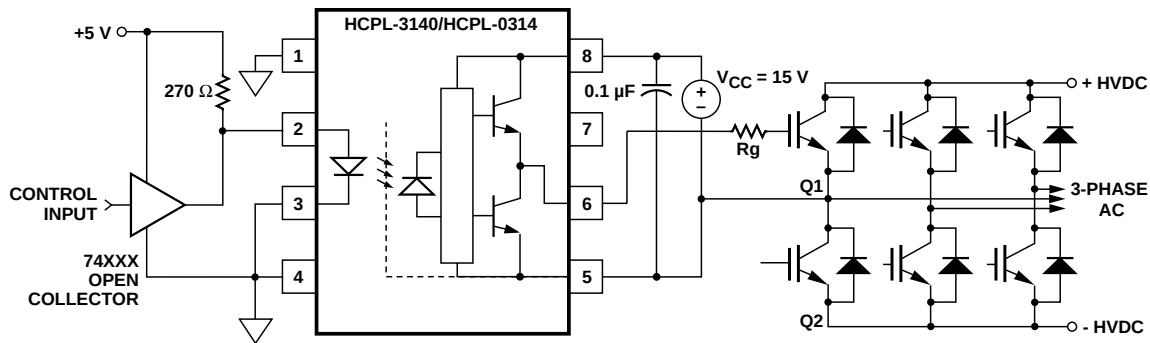
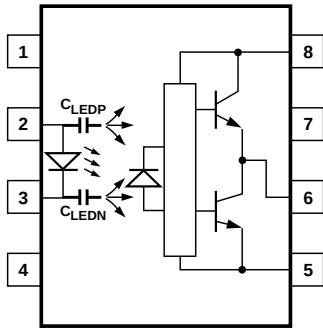
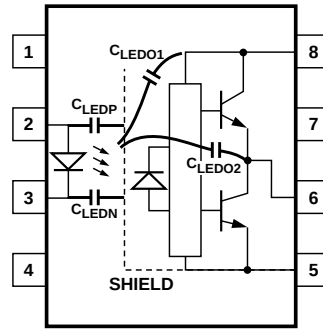

Figure 19. Recommended LED drive and application circuit for HCPL-3140/HCPL-0314.
Figure 21. Optocoupler input to output capacitance model for unshielded optocouplers.
Figure 22. Optocoupler input to output capacitance model for shielded optocouplers.
HCPL-3140/HCPL-0314 on a small PC board directly above the IGBT) can eliminate the need for negative IGBT gate drive in many applications as shown in Figure 19. Care should be taken with such a PC board design to avoid routing the IGBT collector or emitter traces close to the HCPL-3140/HCPL-0314 input as this can result in unwanted
Step 1: Calculate Rg minimum from the IOL peak specification. The IGBT and Rg in Figure 19 can be analyzed as a simple RC circuit with a voltage supplied by the HCPL-3140/HCPL-0314.
where $K_{ICC} \cdot Q_g \cdot f$ is the increase in ICC due to switching and K_{ICC} is a constant of 0.001 mA/(nC*kHz). For the circuit in Figure 19 with IF (worst case) = 10 mA, Rg = 32 Ω, Max Duty Cycle = 80%, Qg = 100 nC, f = 20 kHz and TMAX = 85°C:
Without a detector shield, the dominant cause of optocoupler CMR failure is capacitive coupling from the input side of the optocoupler, through the package, to the detector IC as shown in Figure 21. The HCPL-3140/HCPL-0314 improves CMR performance by using a detector IC with an optically transparent Faraday shield, which diverts the capacitively coupled current away from the sensitive IC circuitry. However, this shield does not eliminate the capacitive coupling between the LED and opto-coupler pins 5-8 as shown in Figure 22. This capacitive coupling causes perturbations in the LED current during common mode transients and becomes the major source of CMR failures for a shielded optocoupler. The main design objective of a high CMR LED drive circuit becomes keeping the LED in the proper state (on or off) during common mode transients. For example, the recommended application circuit (Figure 19), can achieve 10 kV/μs CMR while minimizing component complexity.
supplied by the LED, and it is not recommended for applications requiring ultra high CMR₁ performance. The alternative drive circuit which like the recommended application circuit (Figure 19), does achieve ultra high CMR performance by shunting the LED in the off state.